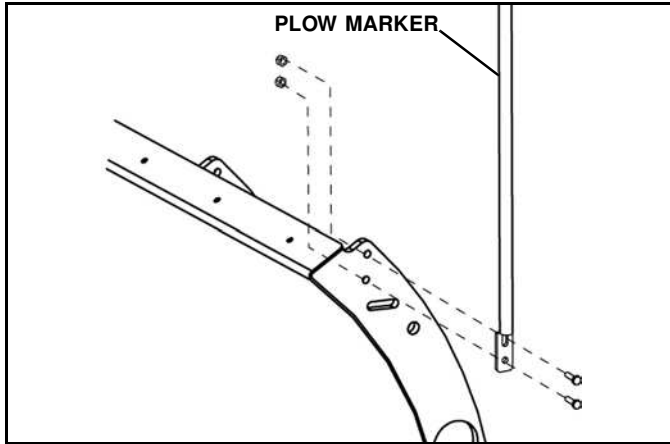

Figure 1-20
27. Attach a plow marker to each side of blade as shown and secure using 5/16 x1" cap screws and locknuts. (See Figure 1-20).